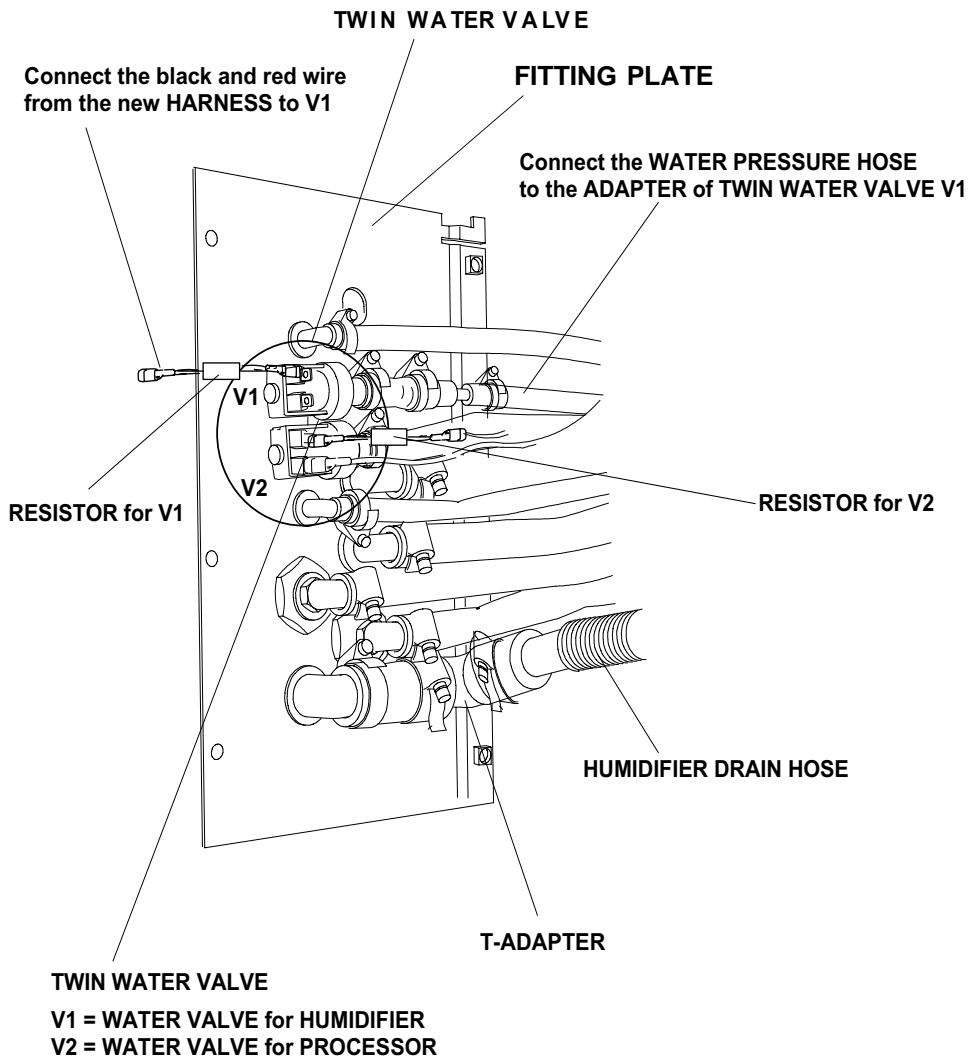

figure 2-15
35. Replace the existing FITTING PLATE (see figure 2-15) with the FITTING PLATE from the MOD-KIT. There is not enough space between the FITTINGS to install the new TWIN WATER VALVE between them. Therefor the new altered FITTING PLATE has to be installed. Discard the old SINGLE WATER VALVE.
36. Install the TWIN WATER VALVE. See figure 2-15.
37. Connect the black WIRE from the new HARNESS to one TERMINAL of the **top** WATER VALVE V1. This is the WATER VALVE for the HUMIDIFIER. Connect the red WIRE with the $56\ \Omega$ RESISTOR in line, to the other TERMINAL of V1. See figure 2-15.
39. Connect the WATER PRESSURE HOSE to V1 of the TWIN WATER VALVE. Secure the hose with a HOSE CLAMP. As in figure 2-15.